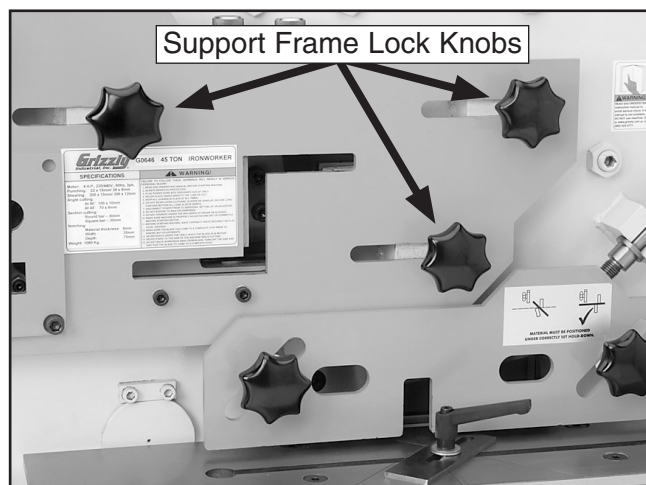

Figure 34. Front support frame lock knobs.
3. Loosen the three lock knobs of the shearing support frame (see **Figure 34**).